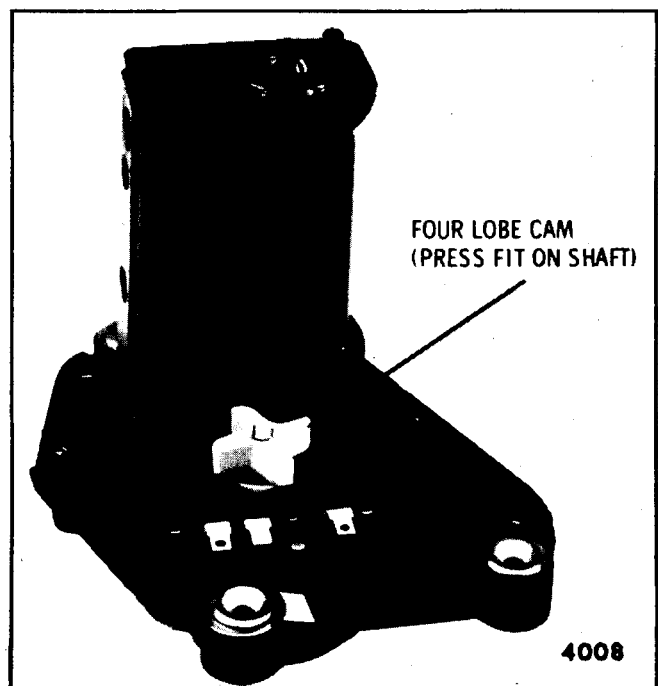

Fig. 2-14-Cam Positioning
2. Position four lobe cam as shown in Fig. 2-14. It may be necessary to manually rotate crankarm.